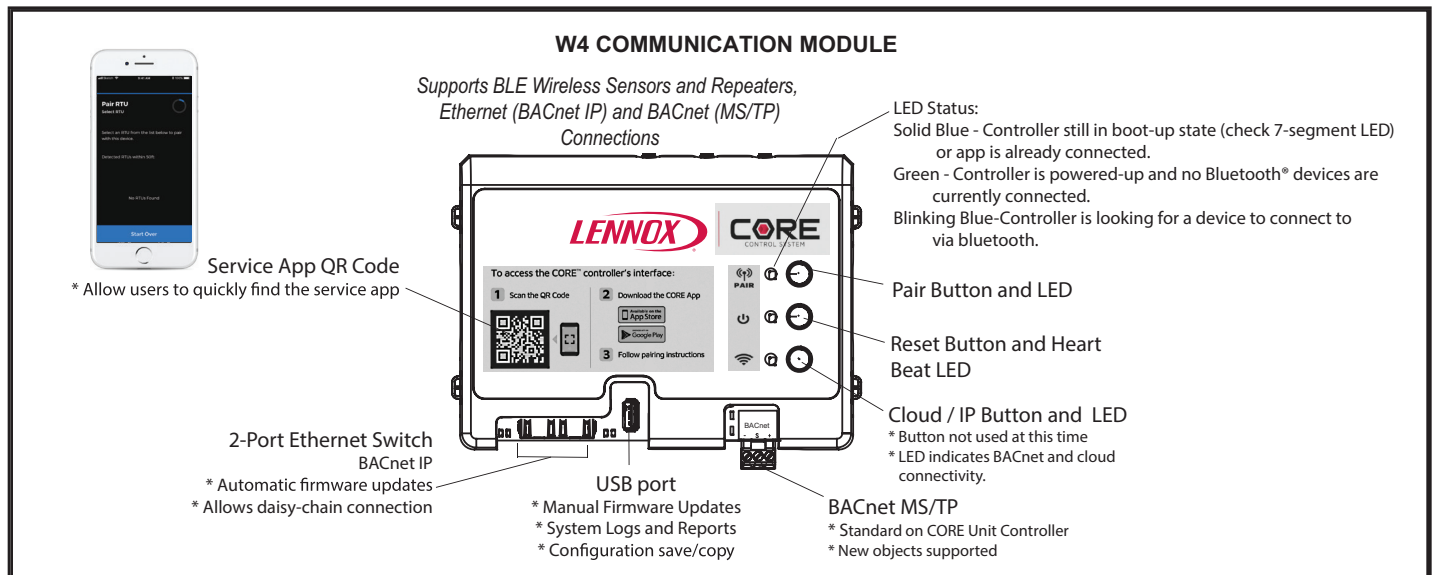

FIGURE 22
- 2 - Press and hold the pair button for five seconds. See FIGURE 22.